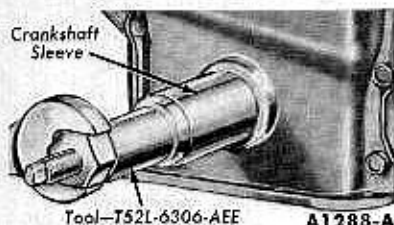

FIG. 47—Crankshaft Sleeve Installation
6. Install the crankshaft sleeve (Fig. 47) with the smallest O.D. end into the cylinder front cover bore if the sleeve is stepped down (different O.D. on each end).